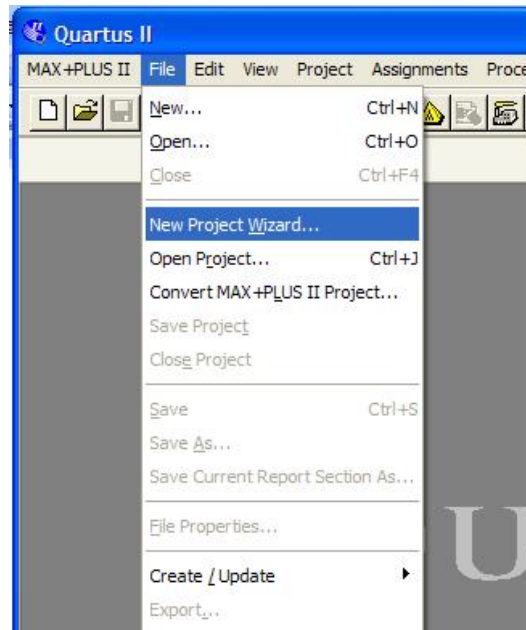

Figure 3.1: New Project Wizard popup window.
1. From the main menu, File → New Project Wizard is selected. Refer Figure 3.1.